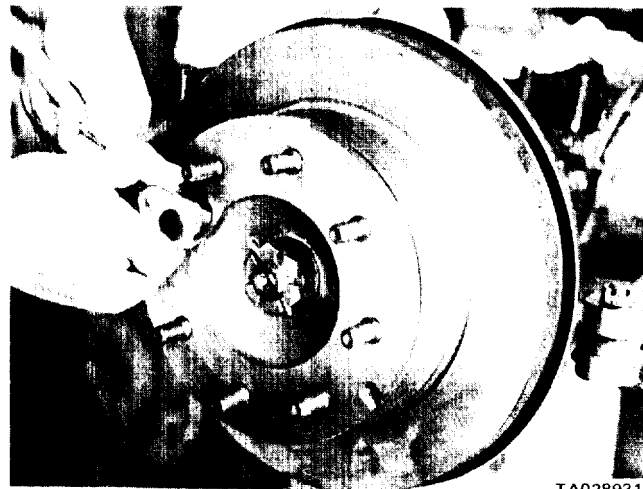

Figure 6-1. Removing Capscrews from Retainer Plate.
(1) Remove the cotter key and loosen the outer axle shaft nut.
(2) Raise the vehicle and install jack stands. Remove the wheel.
(3) Remove the caliper retainer and anti-rattle spring assemblies. Remove the caliper from the disc by sliding it out and away from the disc. Secure the caliper out of the way; do not let it hang or be supported by the hydraulic brake hose. Remove the inside pad.
(4) Using the hole provided in the flange (figure 6-1) remove the six capscrews from the retainer plate.
(5) Remove the outer axle shaft nut. Use a puller to remove the rotor and hub assembly.